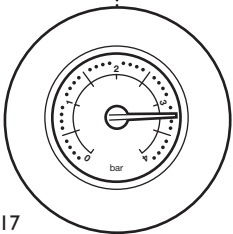

Fig. 17
3. A pressure of 3 or greater indicates a fault. The safety pressure relief valve will operate, at a pressure of 3 (Fig. 17). **It is important that your Installer or Service Engineer is contacted as soon as possible.**